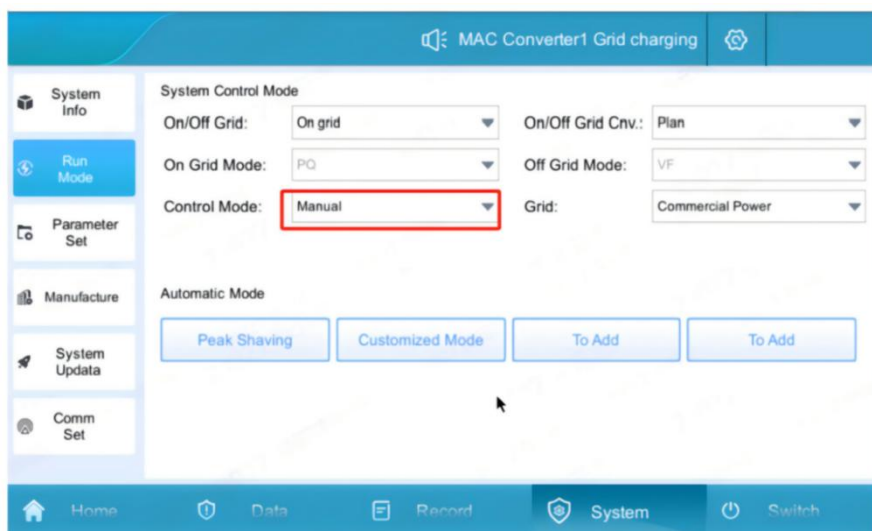

Figure5.2-1 Operation mode interface
5. Enable all modules on the "switch" page of the HMI integrated screen (some modules can also be turned on as needed), click "system on", and the normal startup time is about 30 seconds, as shown in Figure 5.2-1.